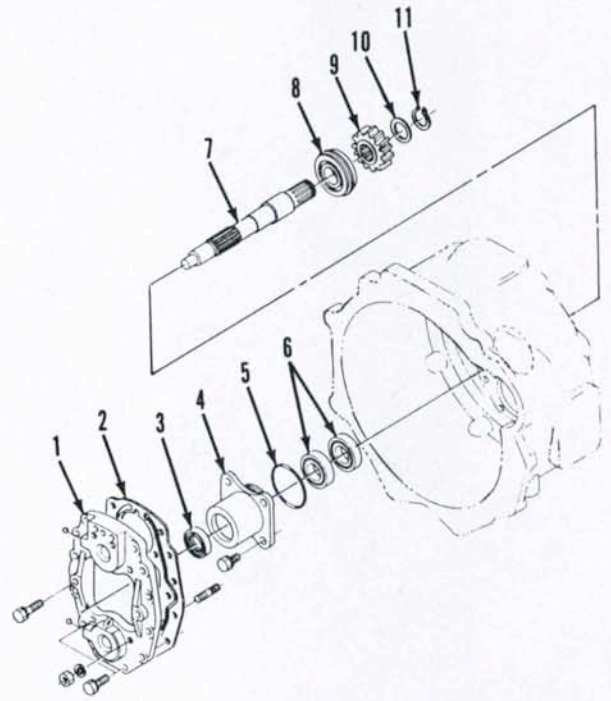
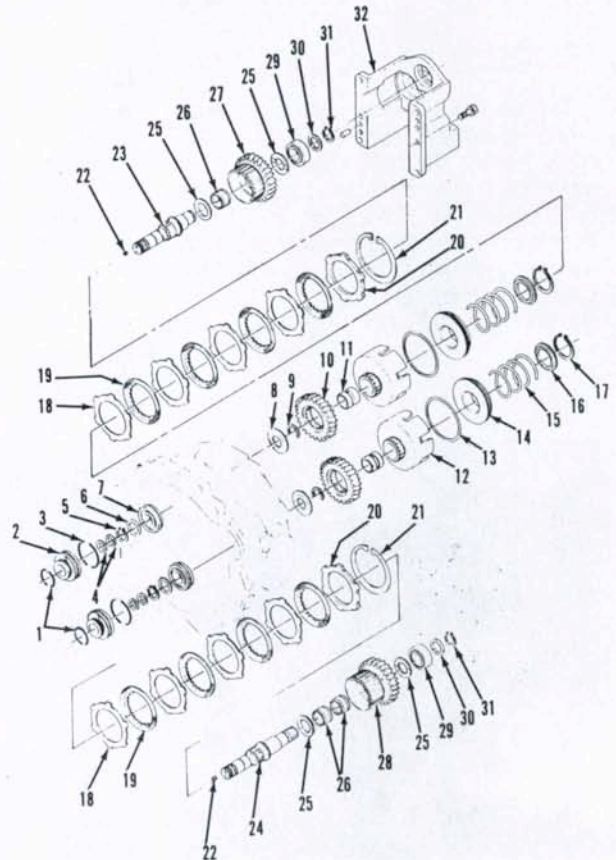

Fig. 123—Exploded view of hydraulic shuttle mainshaft assembly.
Fig. 122—Exploded view of shuttle gearcase and reverse idler gear used on Model L355.
To disassemble shuttle transmission, remove set screw (7-Fig. 122) and mounting cap screws from gearcase (6). Use two jackscrews to lift gearcase from clutch housing. Remove reverse idler shaft (5), gear (4) and bearings from gearcase. Remove shuttle control valve and valve spacer block. Remove mounting cap screws from hydraulic manifold (1-Fig. 123), then use two jackscrews to lift manifold off clutch housing. Screw two cap screws into upper and lower shaft seal retainers (2-Fig. 124), then pull retainers out of housing. Remove seal rings (4) and snap ring (5), then tap shafts rearward to remove clutch assemblies. Remove cap screws from mainshaft bearing case (4-Fig. 123), then withdraw mainshaft assembly from